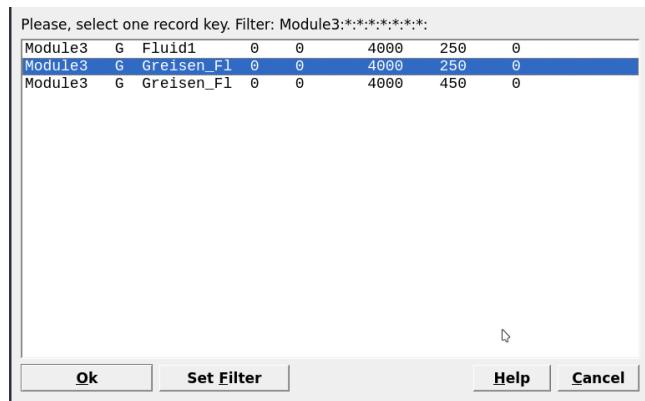

Figure 3.13: Select a parent chemical system ('SysEq') for modeling a 'Process'.
- Create a new record from scratch and select "Greisen_Fl, 4000, 250" as your parent chemical system record (Fig. 3.13). Note that the parent chemical record needs to contain the fluid and the rock to be titrated with the correct units (double check in **SysEq**).